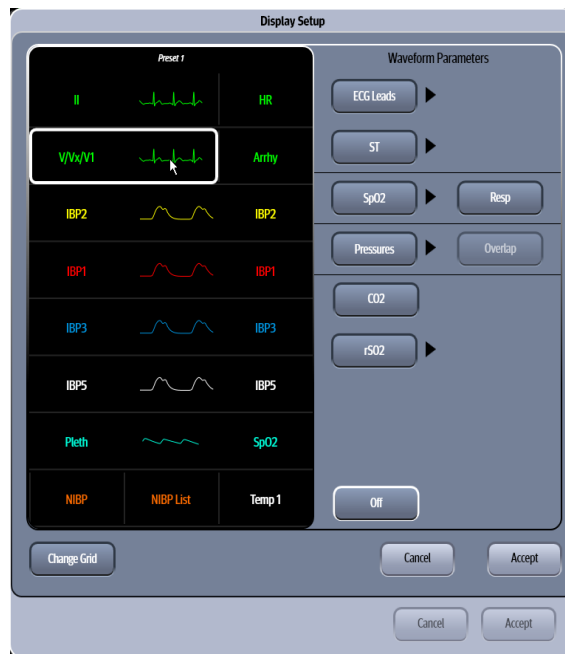

FIGURE 3-3 Example Display Setup Grid (Overlap button disabled)
A list of digital or waveform parameters displays to the right of the grid (as shown in FIGURE 3-3).
5. Select an area on the grid to see a list of available parameters. A list of digital or waveform parameters displays to the right of the grid (as shown in FIGURE 3-3).